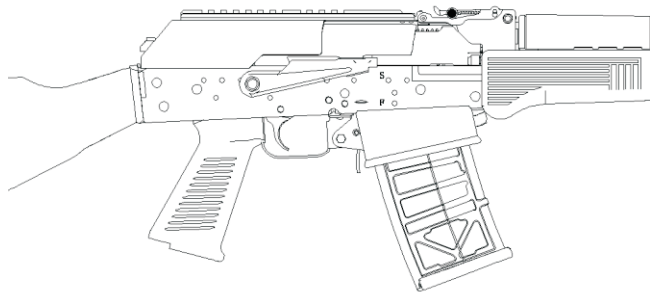

Fig. 6 Magazine Is Fitted to Position
3.4.1.4. Insert the loaded magazine into the magazine slot on the receiver and hook up the magazine hitch with the magazine holder on the receiver till the sound of “click”, indicating the magazine is fitted to position. In the process of mounting the magazine, keep the muzzle pointed towards a safe direction and fingers off the trigger. After mounting, gently pull the magazine downward to make sure that it is firmly locked (see Fig. 6).